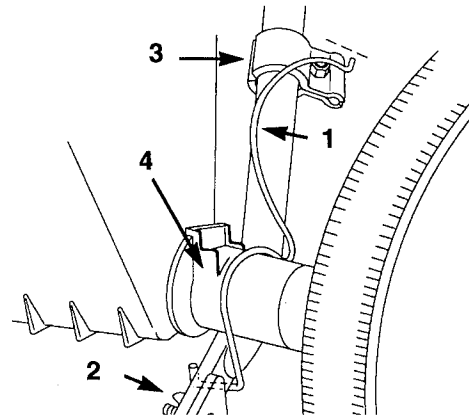

Figure 50
- B. Hook the hold-down spring under the mower handle and between the control cable (Fig. 50).
- C. Rotate the hold-down spring over the axle support and toward the clamp (Fig. 50). While keeping the clamp at a 45° angle to the ground, move the clamp so its back edge lines up with the end of the hold-down spring and secure the clamp in place by tightening the lock nut.